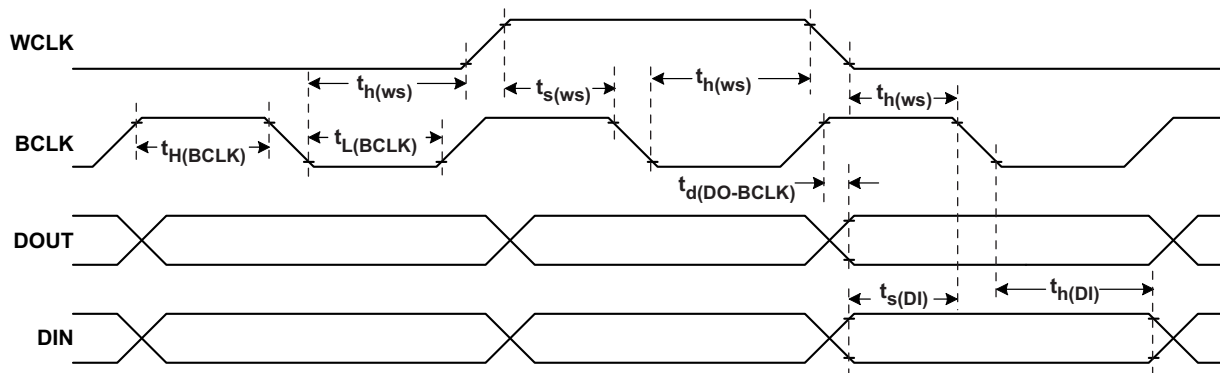

Figure 42. DSP Timing in Slave Mode
**Table 9. DSP Timing in Slave Mode (see Figure 42)**